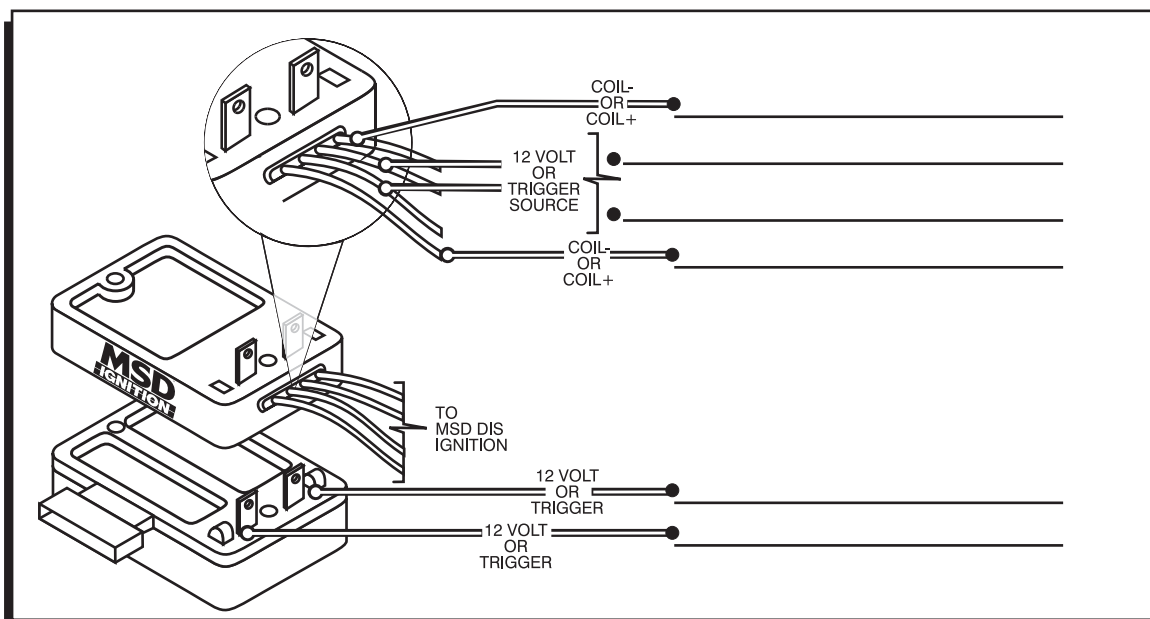

Figure 4 Write in Your 12 Volt Application.
3. There will be two male terminals beneath each coil pack. To ensure which terminal is the 12 volt source, use a volt meter and probe (test) each terminal, with the ignition turned On (Figure 2). A blank diagram is supplied in Figure 4 that allows you to note your vehicle's wiring.